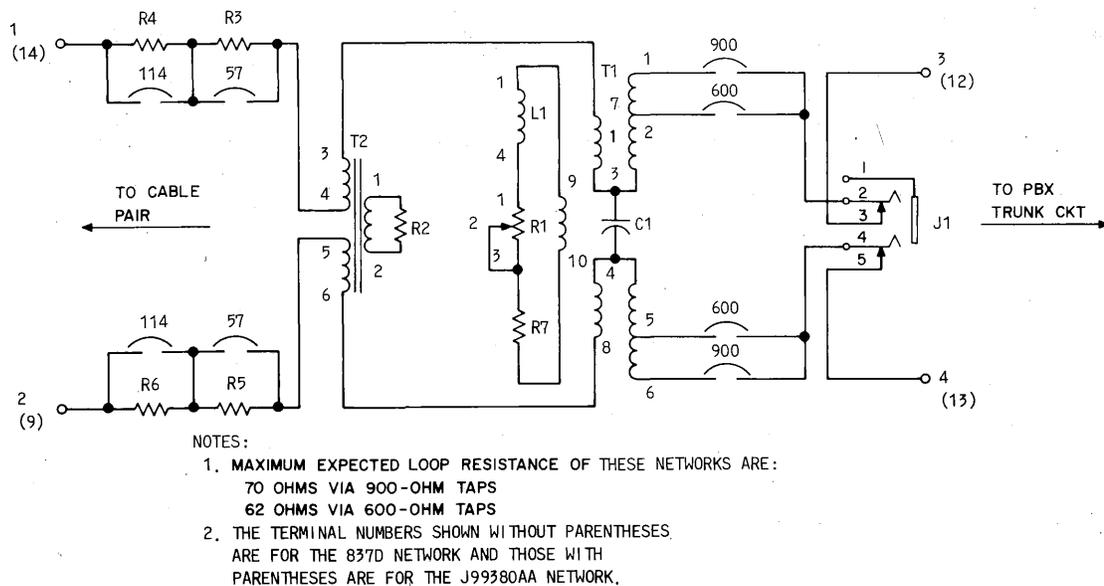

Fig. 3—Schematic Drawing—837D or One-Half of J99380AA Impedance Compensator Network
3.01 The 837D network is electrically identical to one half of the J99380AA circuit pack. Figure 3 is a schematic drawing of the 837D network or one half of the J99380AA network.